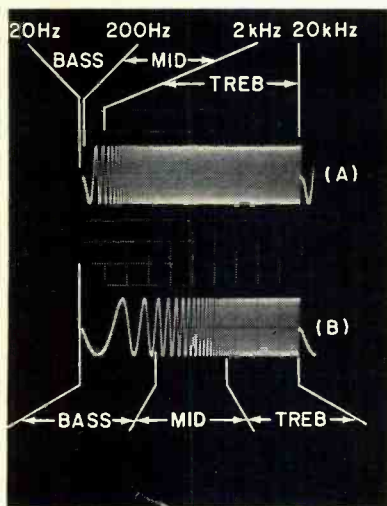

Fig. 1. Basic sweeps from 20 Hz to 20 kHz. Linear sweep at (A), log at (B).
Fig. 1. Typical 12-dB/octave 2-way crossover network. Phase difference between the two legs of the circuit is 180 degrees so speakers must be wired out-of-phase as shown.
**Test Setup.** Most loudspeakers have coded terminals—usually a red dot but sometimes a “+” sign stamped near or a red fiber washer under the positive terminal. The difficulty with most faulty speaker systems involves the 12-dB/octave crossover networks they employ. This type of network, containing two filter components in each leg (see Fig. 1), is popular because it offers a compromise between the gentle frequency-response slope of the 6-dB/octave and the sharp cut-off 18-dB/octave types of networks. The 6-dB/octave network provides too little separation for some speaker